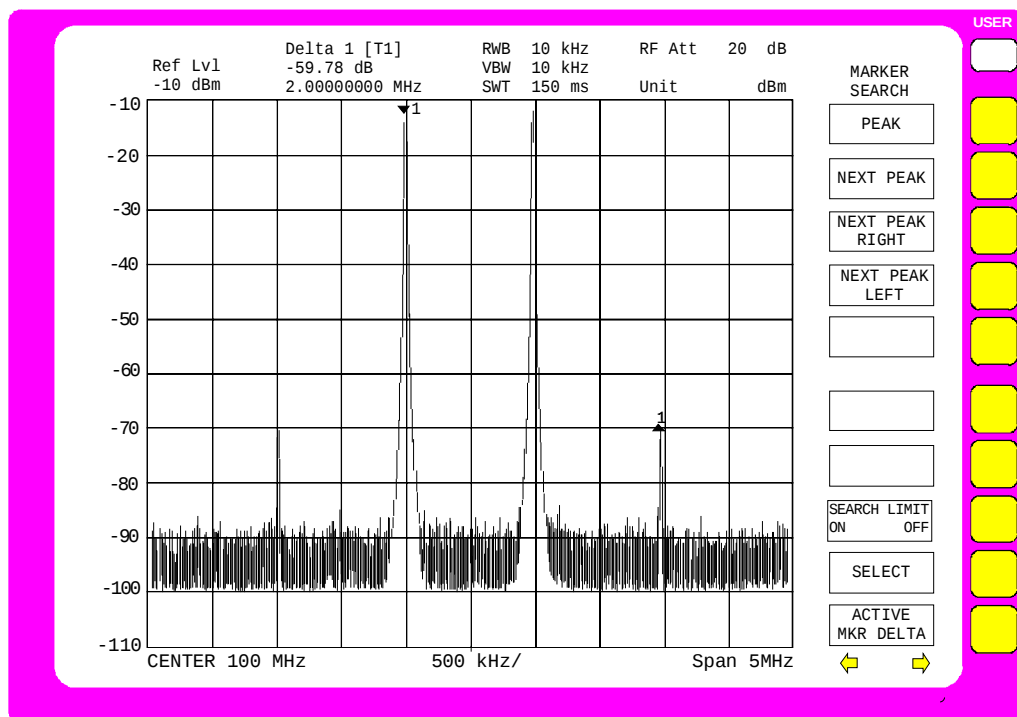

Fig.2-13 Measuring diagram in low distortion mode
The FSE shows the measuring diagram in Fig.2-13
If the amplitude of the IM products doesn't change, the existing setting is sufficient (see Fig.2-13)
- Move the marker to an intermodulation product using the roll-key (see Fig.2-13).
- Press the **NEXT PEAK RIGHT** softkey until the delta marker appears on one of the IM products (see Fig.2-13).
8. Calculate *IP3* from the measured offset and the signal level according to (4)